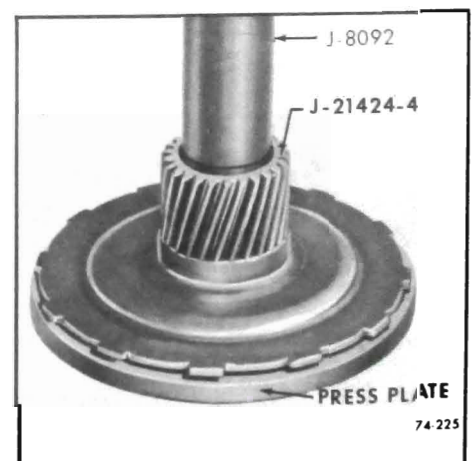

Figure 74-226
2. Install Tool J-21424-4 into low sun gear. Using Drive Handle J-8092 press bushing into low sun gear until bushing installer is flush with top of low sun gear. See Figure 74-226.